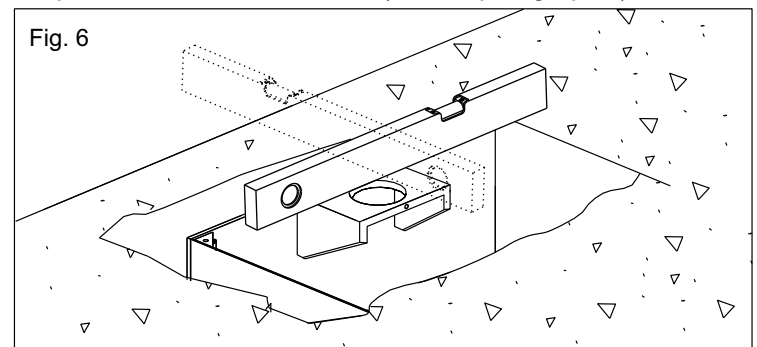
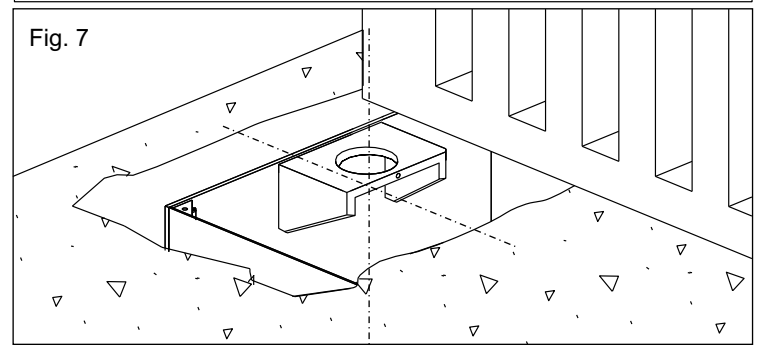

Fig. 6
Fig. 7
**2.3.** Before concreting the carrying box, use a level to make it perfectly horizontal to the ground (Fig. 6) and perpendicular to the axis of the gate (Fig. 7).